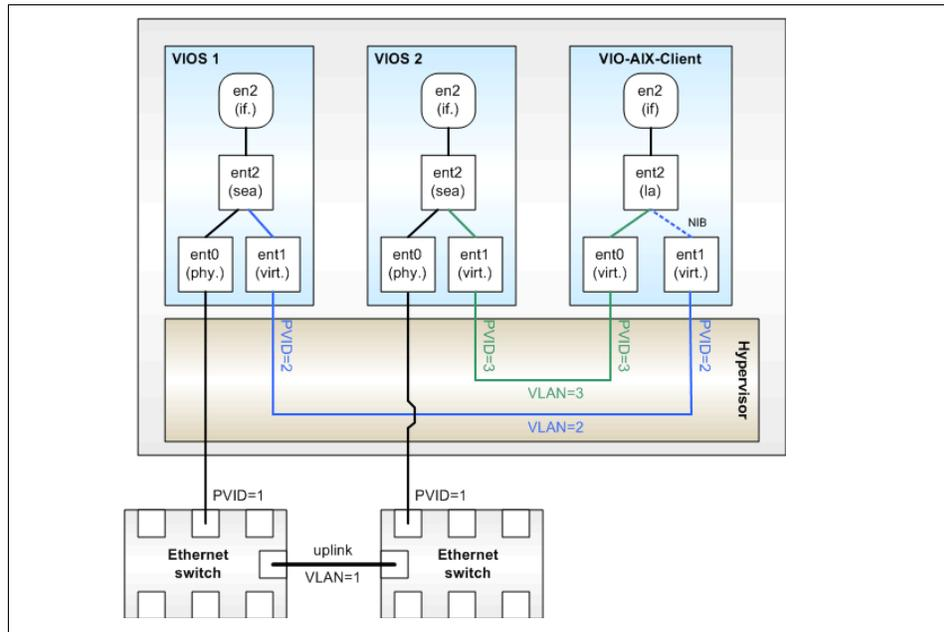

Figure 4-5 Network Interface Backup with two Virtual I/O Server
- ▶ On layer-2 (Ethernet), as shown in Figure 4-5 on page 191, with the backup adapter feature of EtherChannel or Link Aggregation or Network Interface Backup (NIB).
**Consideration:** A Link Aggregation of more than one active virtual Ethernet adapter is not supported. Only one primary virtual Ethernet adapter plus one backup virtual Ethernet adapter are supported. Thus, a total of exactly two virtual adapters, one active and one standby, as shown in Figure 4-5 on page 191, is allowed.